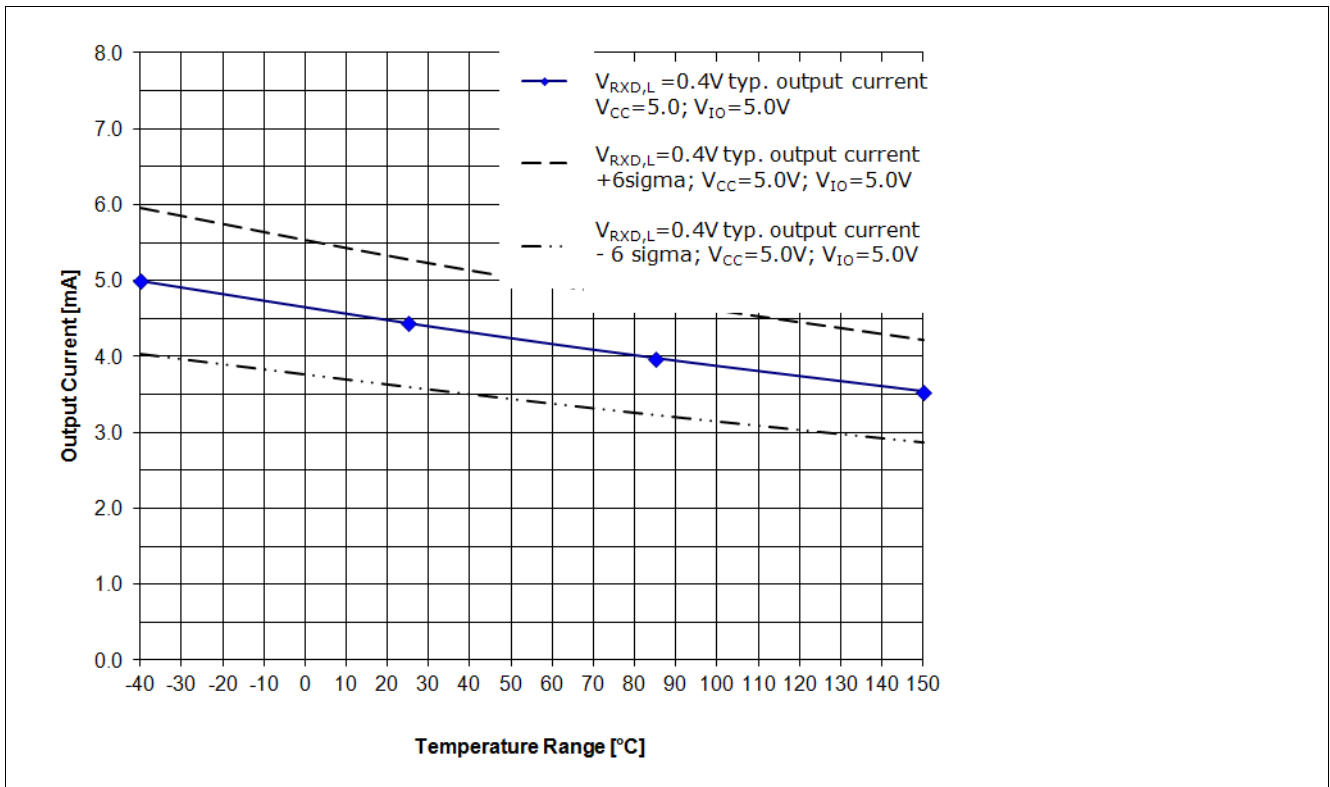
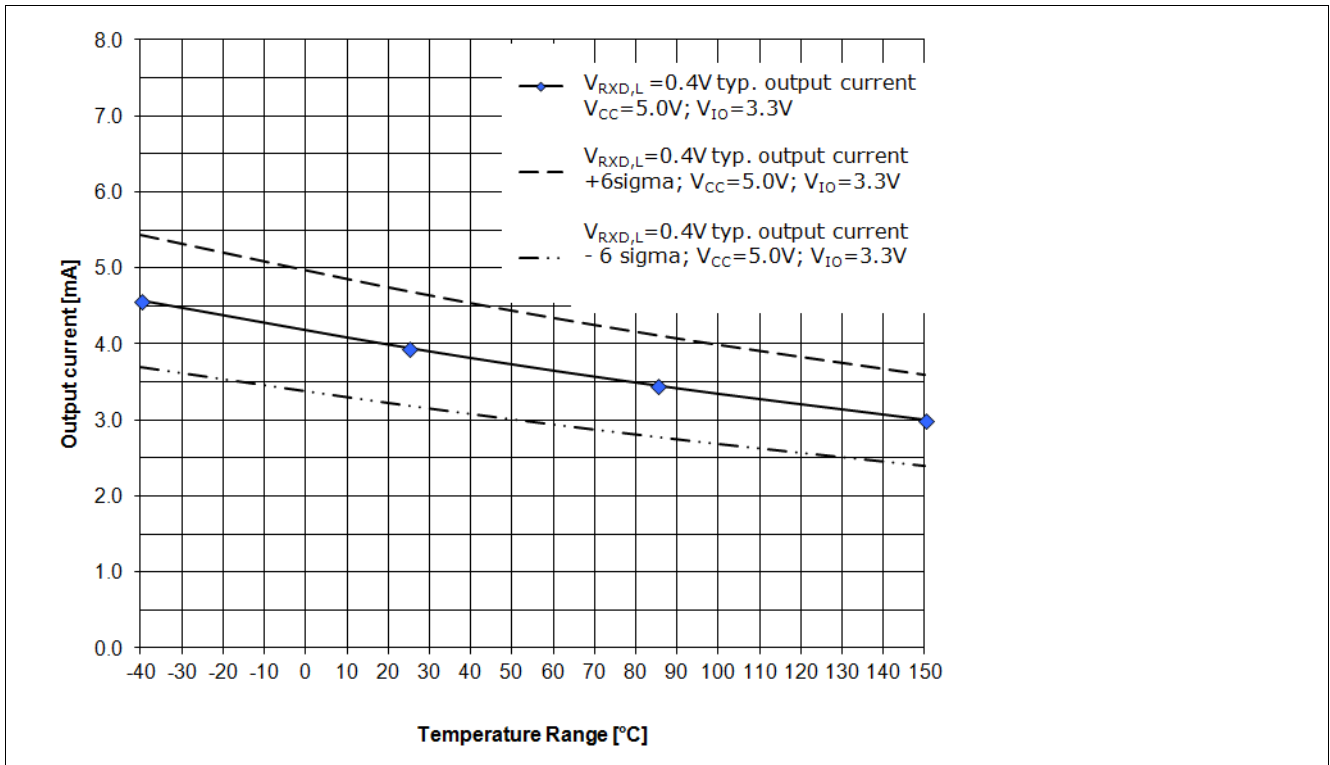

Figure 13 RxD Output driver capability for a logical “Low” signal $V_{\text{RxD,H}}=0.4\text{ V}$, $V_{\text{CC}}=5.0\text{ V}$, $V_{\text{IO}}=5.0\text{ V}^1$
Figure 14 RxD Output driver capability for a logical “Low” signal ($V_{RxD,H}=0.4\text{ V}$, $V_{CC}=5.0\text{ V}$, $V_{IO}=3.3\text{ V}^1$)
The diagram in Figure 13 and the diagram in Figure 14 show the current capability of the RxD output pin depended on the chip temperature T_J . Figure 13 shows the current capability of the RxD output pin at a V_{IO} power supply of 5.0 V and Figure 14 shows the current capability of the RxD output pin at a V_{IO} power supply of 3.3 V.
- The curve “VRxD,H = 0.4 V; **typ. output current**; VCC = 5.0 V; VIO =5.0 V;” displays the typical output current at the RxD output pin of the TLE8250GVIO (see Figure 13).
- The curve “VRxD,H = 0.4 V; **typ. output current + 6 sigma**; VCC = 5.0 V; VIO =5.0 V;” displays the expected maximum value of the output current at the RxD output pin (see Figure 13).
- The curve “VRxD,H = 0.4 V; **typ. output current - 6 sigma**; VCC = 5.0 V; VIO =5.0 V;” displays the expected minimum value of the output current at the RxD output pin (see Figure 13).
- The curve “VRxD,H = 0.4 V; **typ. output current**; VCC = 5.0 V; VIO =3.3 V;” displays the typical output current at the RxD output pin of the TLE8250GVIO (see Figure 14).
- The curve “VRxD,H = 0.4 V; **typ. output current + 6 sigma**; VCC = 5.0 V; VIO =3.3 V;” displays the expected maximum value of the output current at the RxD output pin (see Figure 14).
- The curve “VRxD,H = 0.4 V; **typ. output current - 6 sigma**; VCC = 5.0 V; VIO =3.3 V;” displays the expected minimum value of the output current at the RxD output pin (see Figure 14).